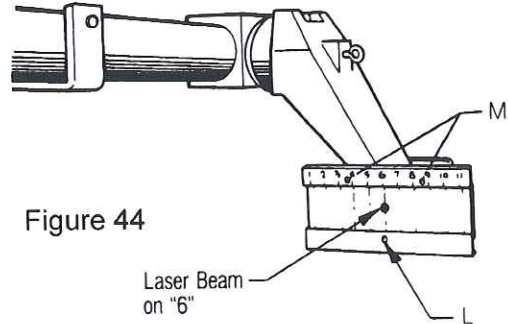

Figure 44
- 3) Level the Toe Gauge and project the laser beam image on the rear Retro-screen. (See Figure 44) The center of the beam image must be on 6 and midway up the mirror.
If not, adjust the two screws (M) (See Fig. 44) until the image is on 5 and adjust screw (L) until the image is mid-way up on the Thrust Angle Scale.